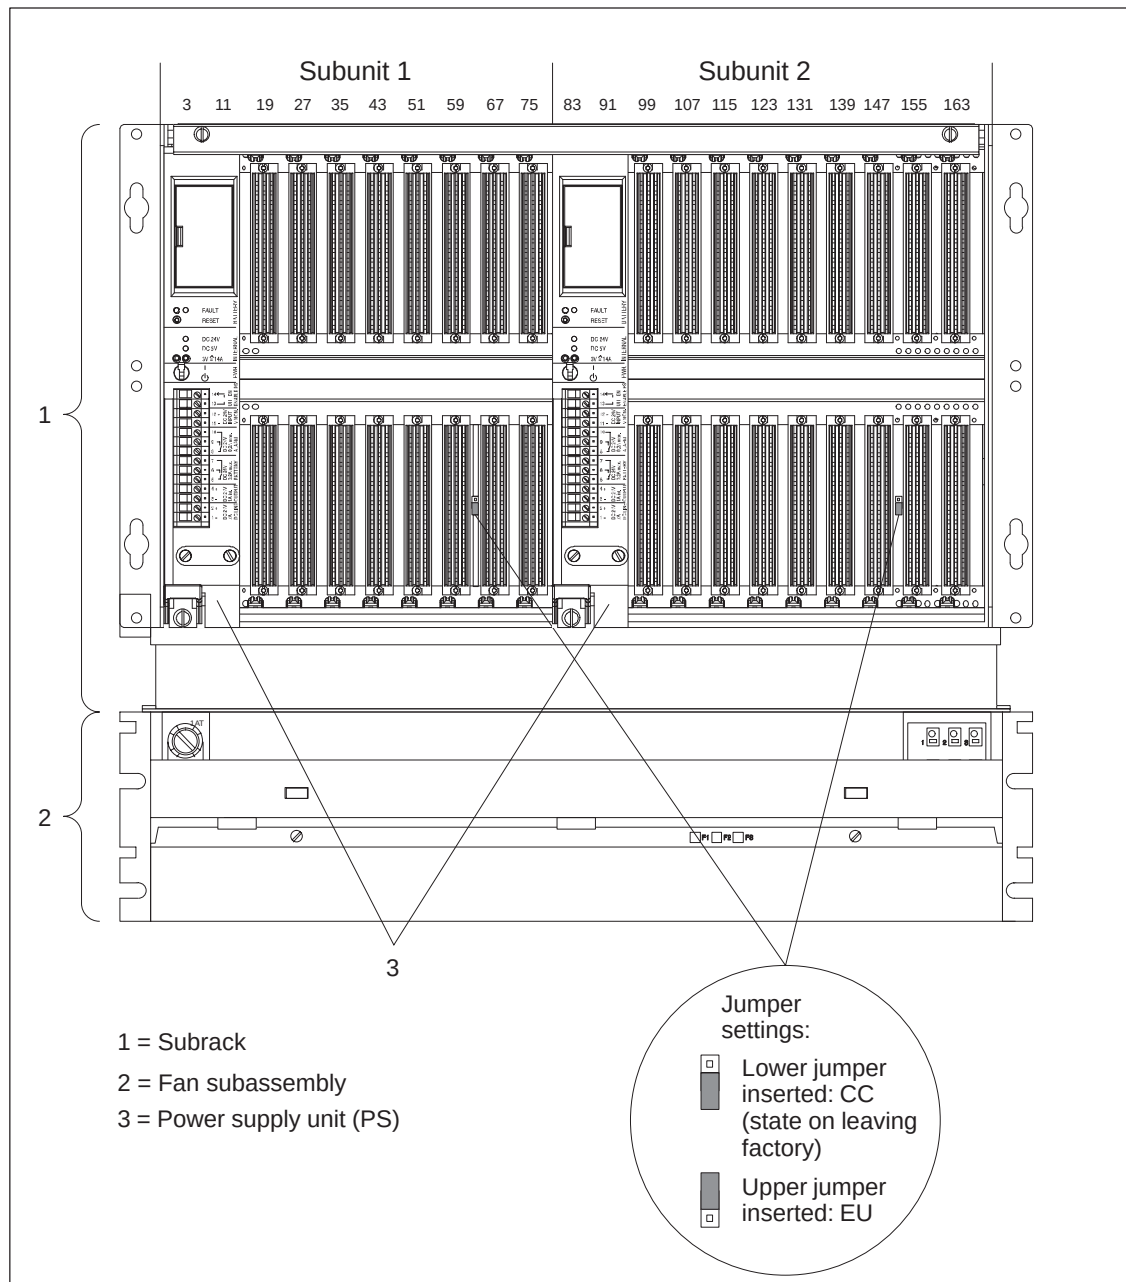

Figure 1-1 CC 155H, Front View
The CC 155H (see Figure 1-1) comprises the following components:
Jumper Settings	The following operating modes can be set for each subunit of the CC 155H independently: • Central controller mode (CC) • Expansion unit mode (EU) The modes are set using jumpers. These jumpers are accessible from the front in the subrack (see Figure 1-1). The state on shipping from the factory is central controller mode (lower jumpers inserted).